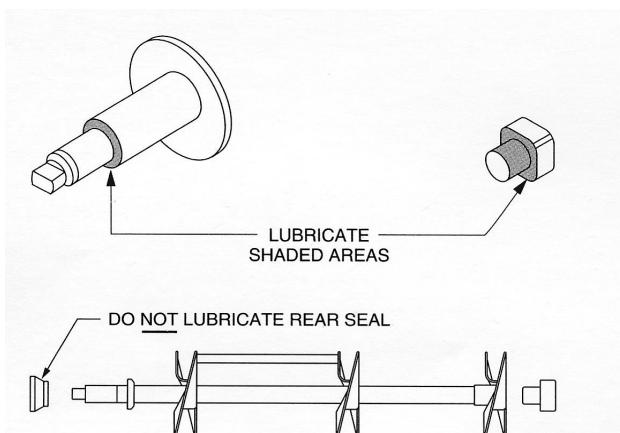

Fig. 27
- a. Apply a 1/4" bead of lubricant to the shoulder of the dasher where the white plastic portion of the assembled rear seal contacts the shaft (Fig. 27).
- c. Assemble and install the rear seal with the rubber portion toward the rear of the dasher (Fig. 27).